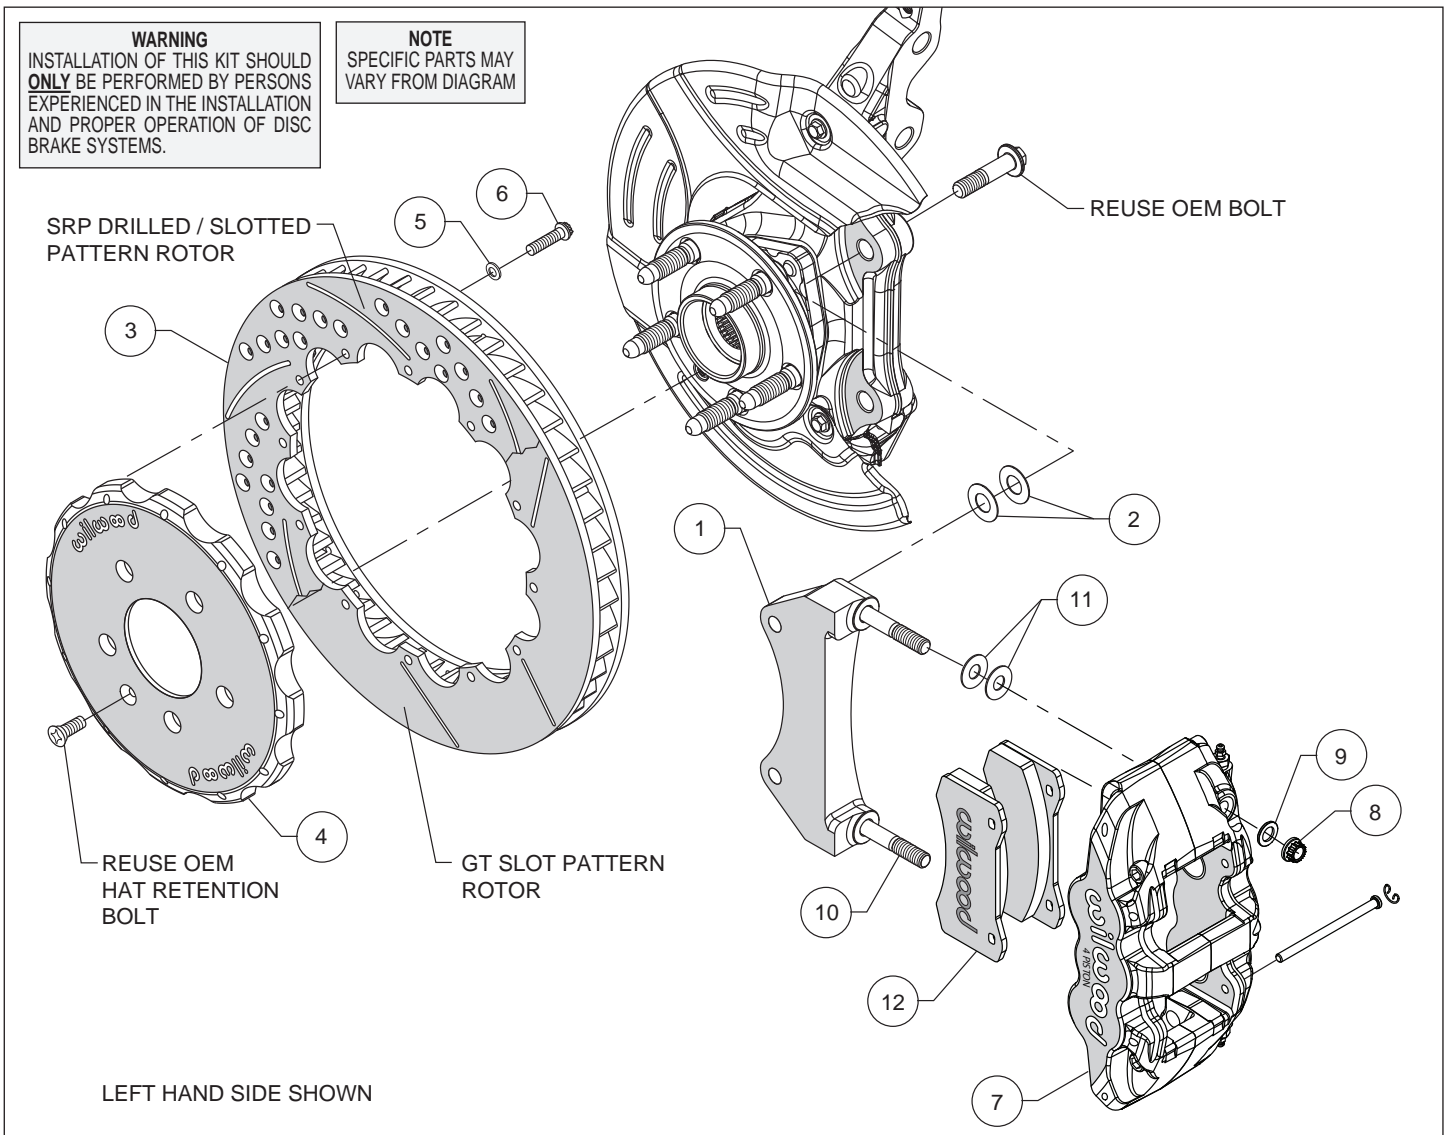
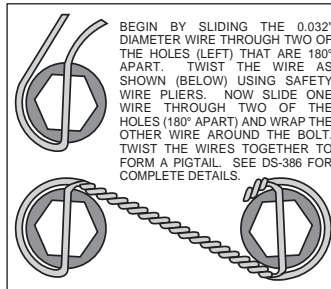

Figure 1. Typical Installation Configuration
Figure 3. Safety Wire Diagram
Assembly Instructions (numbers in parenthesis refer to the parts list and Figure 1 on the preceding pages):
- The caliper mount bracket (1) should initially be installed with clean, dry threads on the mounting bolts. Orient the bracket as shown in Figure 1 and install using the saved OEM caliper mount bolts. Initially place two .029" thick shims (2) on each bolt between the bracket and upright, Figure 1 and Photo 1. Temporarily tighten the mounting bolts. **NOTE:** The bracket must fit squarely against the mount bosses on the upright. Inspect for interference from casting irregularities, machining ridges, burrs, etc. Later, after the caliper alignment has been checked, the mount bolts will be secured using red *Loctite*® 271.
- Orient the rotor (3) and the hat (4) as shown in Figure 1 and Photo 2. Attach rotor to hat using bolts (6) and washers (5). Using an alternating sequence, apply red *Loctite*® 271 to the threads and torque bolts to 155 in-lb. For an added measure of security, the bolts may be safety wired using standard 0.032 inch diameter stainless steel safety wire as shown in Figure 3.
- Slide the hat/rotor assembly onto the axle hub taking care to align the small countersunk hole in the hat (4) with the small threaded hole in the axle hub, Figure 1. **NOTE:** The hat must fit flush against the axle hub flange or excessive rotor run out may result. Install three lug nuts (finger tight) to keep the hat/rotor assembly in place while continuing with the installation.
- NOTE:** This kit contains distinct right and left hand calipers that must be mounted in a specific direction, as described below. Lubricate the caliper mounting studs (10) with lightweight oil. Initially place two .030" thick shims (11) on each stud between the caliper and the bracket, as shown in Figure 1 and Photo 3. Mount the caliper (7) onto the bracket (1) using lock nuts (8) and washers (9), Figure 1. Temporarily tighten the lock nuts. Ensure that the caliper is mounted so the largest pistons are at the rotor exit end of the caliper, in relation to the direction of the rotor. View the rotor through the top opening of the caliper. The rotor should be centered in the caliper, Photo 4. If not, adjust by adding or subtracting shims (2) between the bracket and the upright. Always use the same amount of shims on each of the two mounting bolts. Once the caliper alignment is correct, remove the bracket mounting bolts one at a time, apply red *Loctite*® 271 to the threads, and torque to 65 ft-lbs.
- Remove the two pad retaining pins from the caliper (7) by carefully popping out the pin retaining clips and sliding out the pins. Insert the brake pads (12) into the caliper from the bottom, Figure 1 and Photo 5. With the friction material facing the rotor, secure the brake pads in place with the pad retaining pins and clips, Photo 6. Reinstall the caliper onto the caliper mounting bracket and temporarily tighten the lock nuts. Check that the top of the brake pad is flush with the outside diameter of the rotor, Photo 7. If not, adjust by adding or subtracting shims (11) between the caliper and the bracket. After the caliper pad height is set, torque the caliper lock nuts (12) to 47 ft-lb.